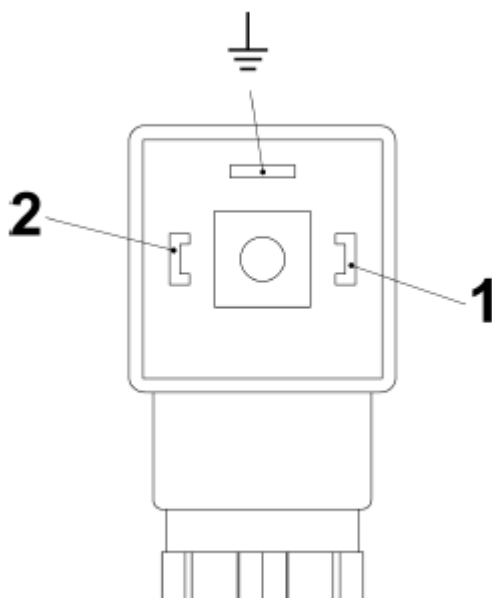
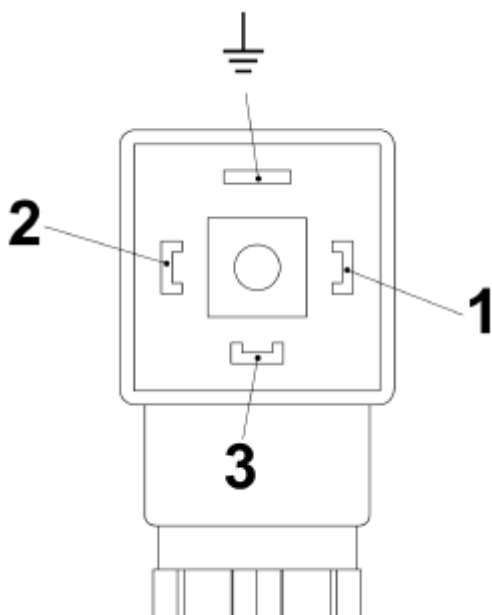

Fig. 24: Pin assignment, plug socket, Normally Open Contact (Form 30x70)
Fig. 25: Pin assignment, plug socket, Change-over contact (Form 30x70)
6. ► Make the connections as shown in the connection diagram (Fig. 24 and Fig. 25).